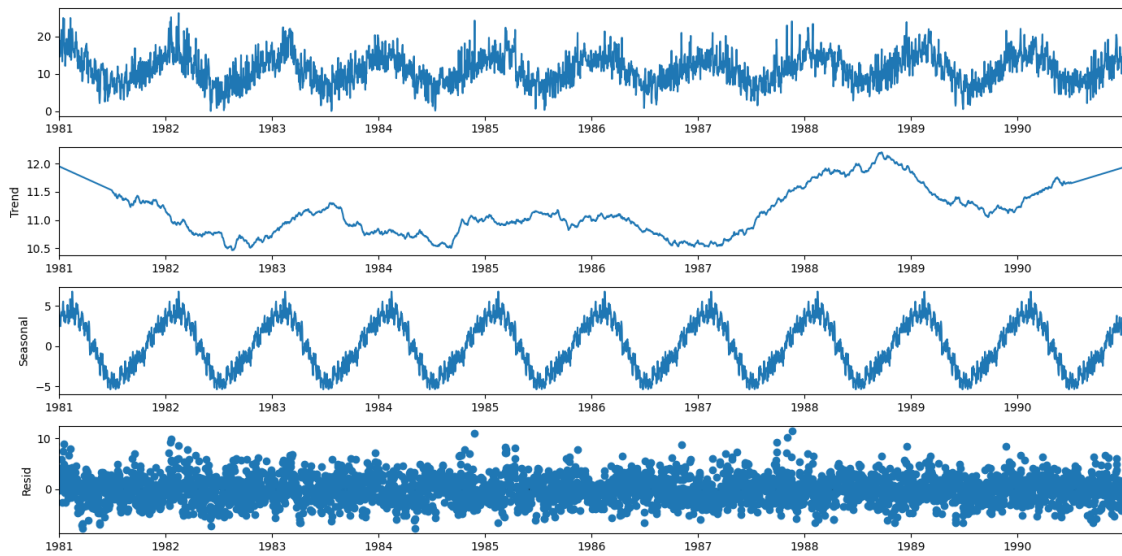

Figure 6: Decomposition of the first dataset by seasonal_decompose method
- (a) *Seasonal_decompose (Figure 6 and 7)*